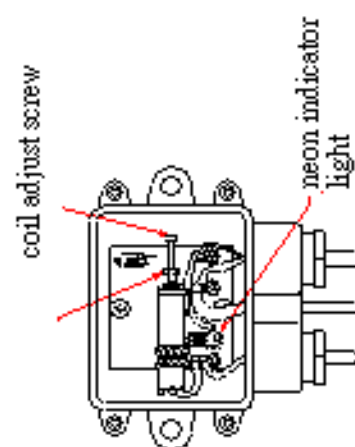

figure-3
Step 4: Turn on power; adjust the coil adjust screw that inside the matching box (Figure-3). Let the neon indicator light to be illuminated in the best situation.